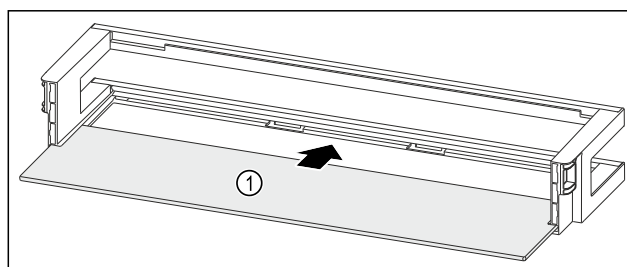

Fig. 178 Door rack with shelf
- ▶ Push the shelf Fig. 178 (1) into the side recesses.